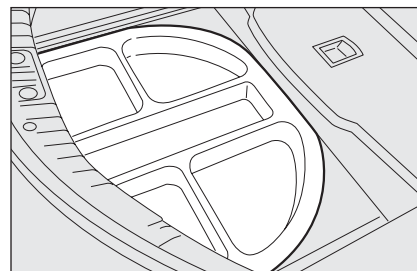

fig. 3
- ☐ remove the box as shown in **fig. 3**;